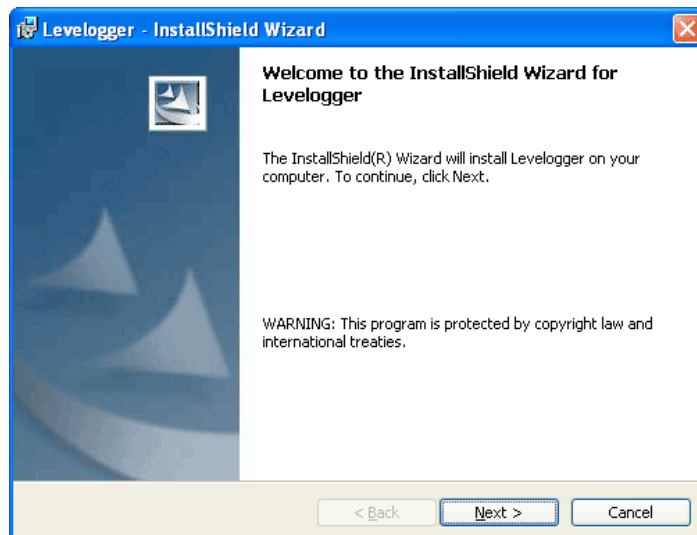

Figure 3-1 Software Installation Wizard
- 3) The Software Installation Wizard will guide you through the remaining installation process. Figure 3-1 shows the Levelogger Installation Wizard.